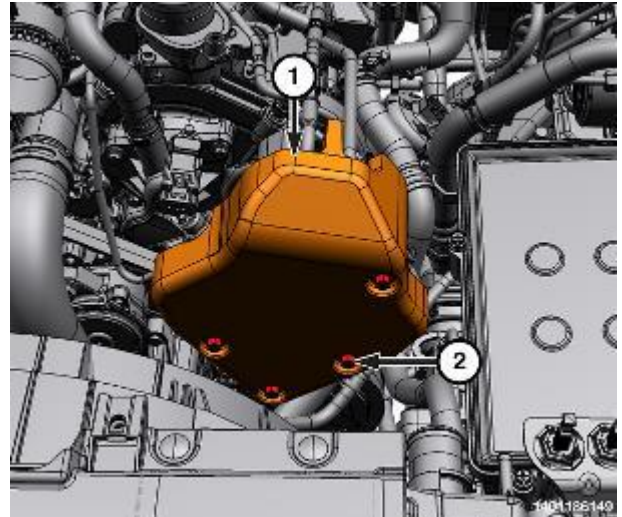

Figure 176 – HPFP Blocker Plate
6. Remove the fuel injection pump blocker plate bolts (2) and the fuel injection pump blocker plate (1) from the fuel injection pump (Figure 176).